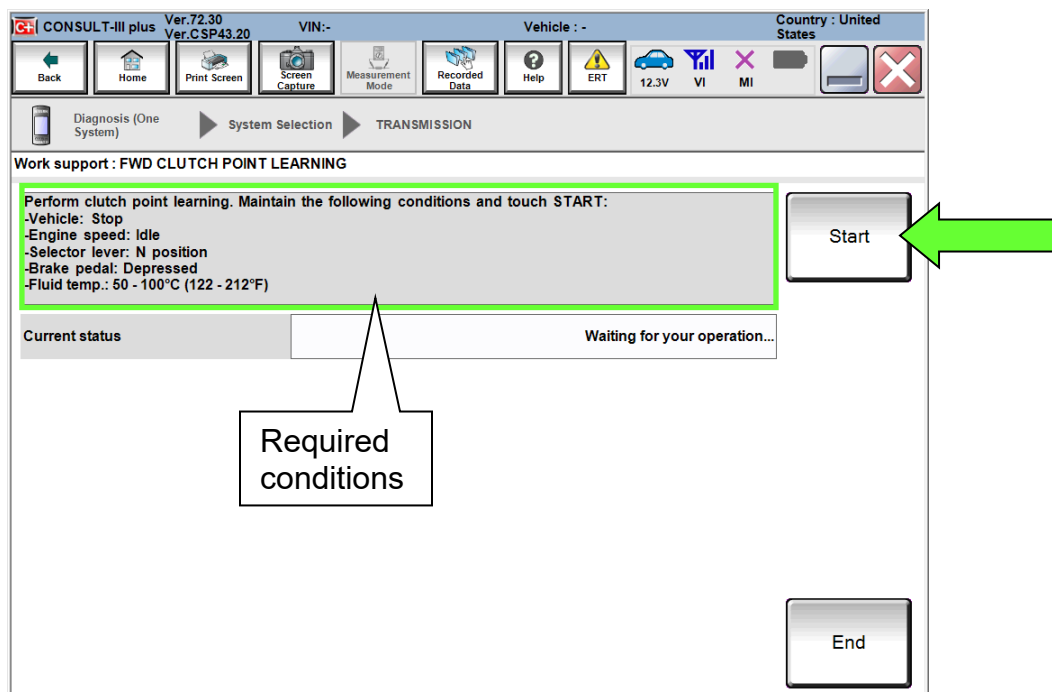

Figure 20J
9. With the engine still running and at idle, depress the brake pedal and shift the CVT into neutral (N).
- Confirm that all of the required conditions indicated in Figure 20J are being met.
11. While maintaining all conditions shown in Figure 20J and the “Current status” indicates “EXECUTING”, shift the CVT into **D** and then wait until the Current status indicates “COMPLETED”.